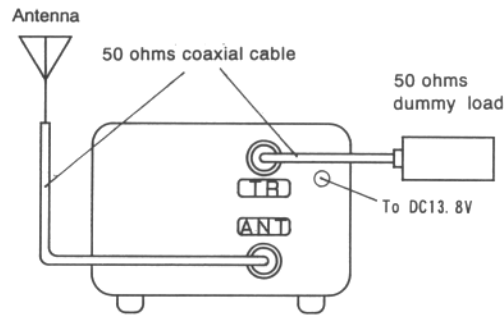

Fig. 1
2. For accurate power measurements, use 50 ohms pure resistance dummy load .(Fig.1)